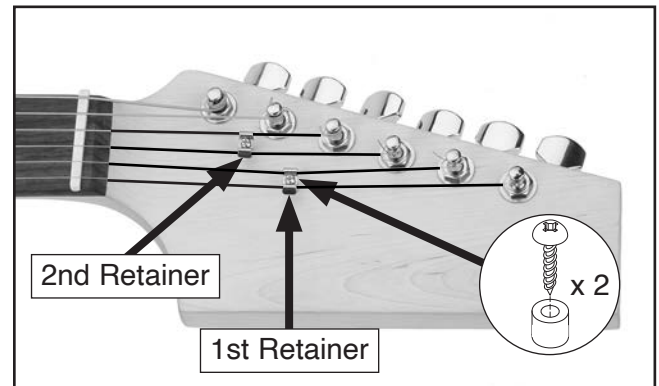

Figure 25. String retainer locations.
The string retainers mount between the 1st and 2nd strings, and between the 3rd and 4th strings (see **Figure 25**). String retainers are designed to hold the strings down against the nut to enable correct tuning.
3. Slide screw provided with retainer through retainer and bushing, then fasten it to headstock (see **Figure 25**).